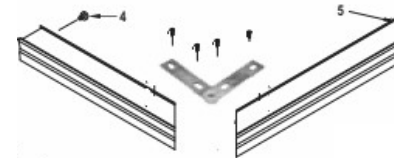

FIGURE 1
2. Assemble curb with clips provided (Figure 1). Using template provided, drill holes for the corner clip by laying template on header or curb with the tab to the inside of miter. Using holes provided in header and curb, secure using eight #6 x 3/8" SMS Screws (4). Set curb in place and mark location on curb leaving curb in place temporarily.